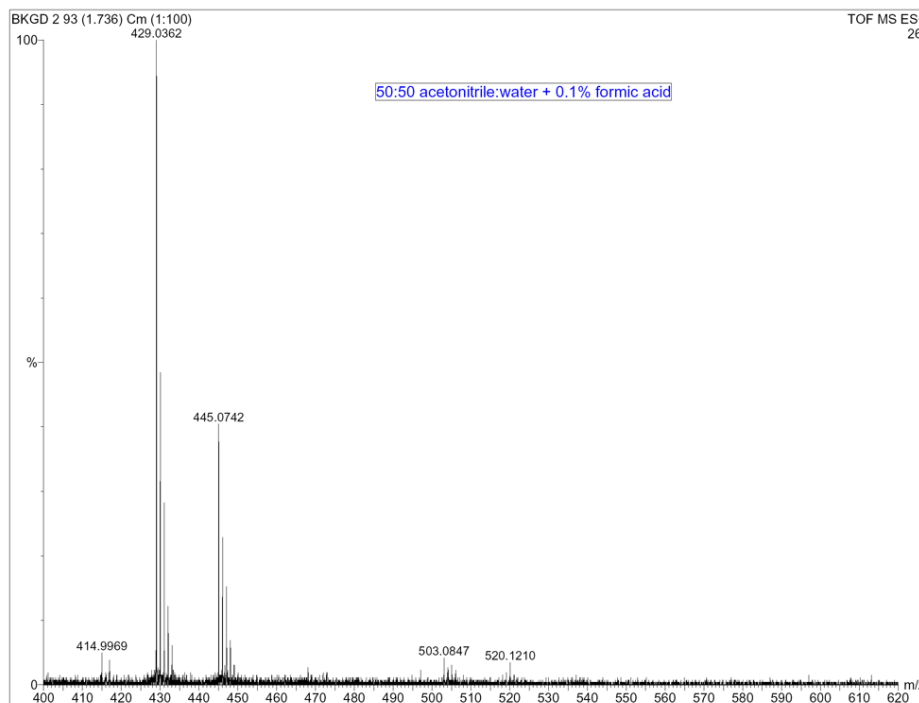

Figure 2 - ESI+ Spectrum Showing Siloxane Contamination
- Siloxanes are often present in laboratory air.⁵ These compounds, which exist in deodorant and other cosmetic products, can cause contamination under certain conditions, such as nanoflow (Figure 2).